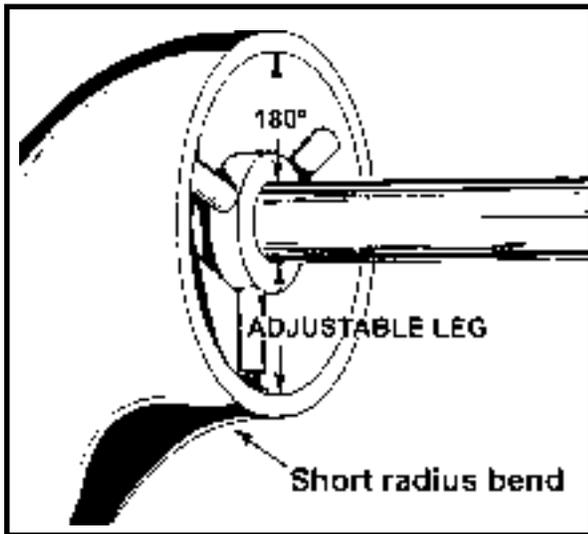

Figure 23
3. Place the mandrel assembly into the pipe. Position the adjustable leg at the "short radius bend" portion of pipe (Figure 23) and snug the draw bar nut.
4. Measure the distance over the adjustable leg from the pipe I.D. to the mandrel shaft. Measure the same distance 180° from the adjustable leg. When the mandrel is centered, these two measurements will be approximately equal (Figure 23).